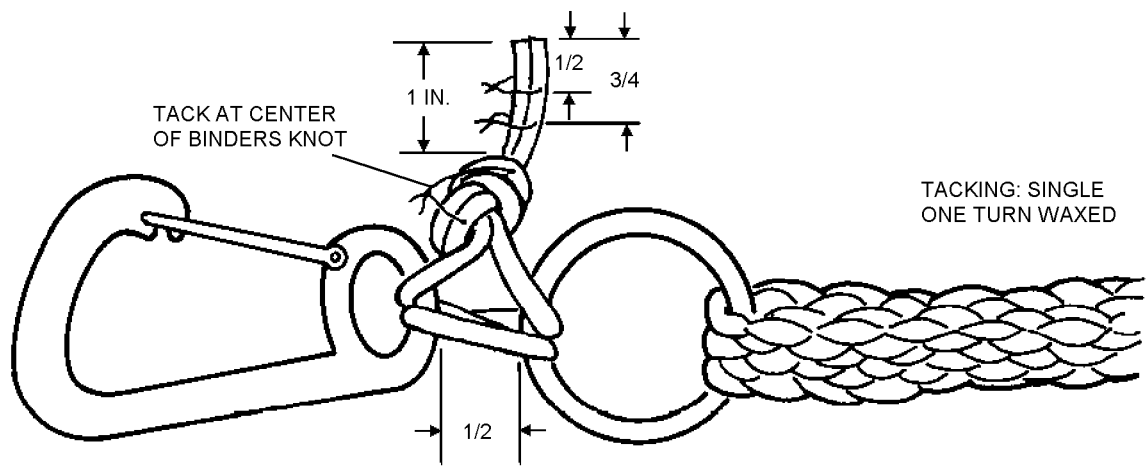

Figure 14-24. Weak Link Assembly
3. Route the cord two turns through the ring and snap-hook, (figure 14-24). Tie ends with a binders knot leaving approximately 1-inch of free end.
4. Tack the free ends of the binders knot in two places with a single turn of waxed FF thread. Tack the binders knot at center of knot with a single turn of waxed FF thread. (figure 14-24). All tacking shall be tied using a surgeon's knot followed by a square knot.
3. Tack the free ends of the binders knot in two places with a single turn of waxed FF thread. Tack the binders knot at center of knot with a single turn of waxed FF thread. (figure 14-24). All tacking shall be tied using a surgeon's knot followed by a square knot.